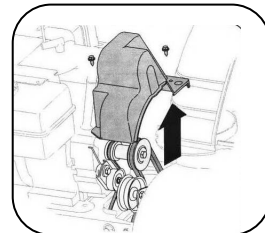

Figure 14
1. Remove the belt cover on the front of the engine by removing the two self-tapping screws. See Figure 14.